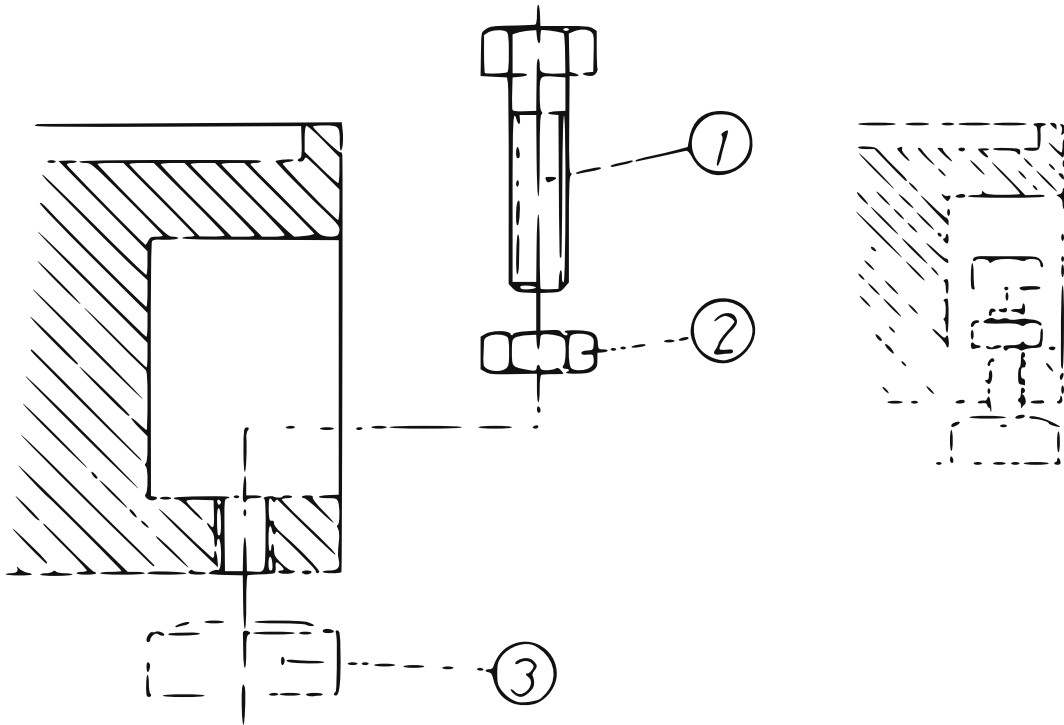

Figure 3-7: Levelling bolt arrangement
- 3 Before levelling, fit nut 2 onto levelling bolt 1 so that the nut is close to the bolt head (Figure 3-7).